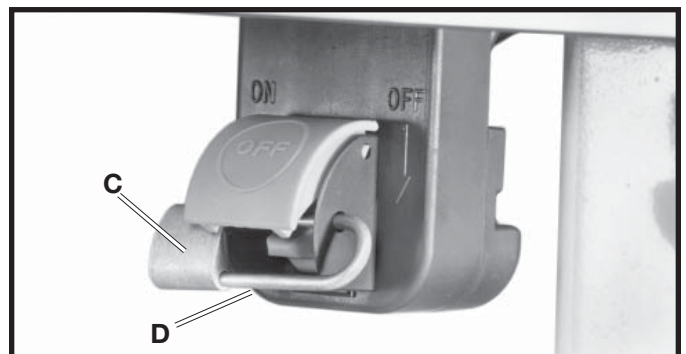

Fig. 57
IMPORTANT: When the machine is not in use, the switch should be locked in the “OFF” position to prevent unauthorized use, using a padlock (C) Fig. 57 with a 3/16" diameter shackle (D).